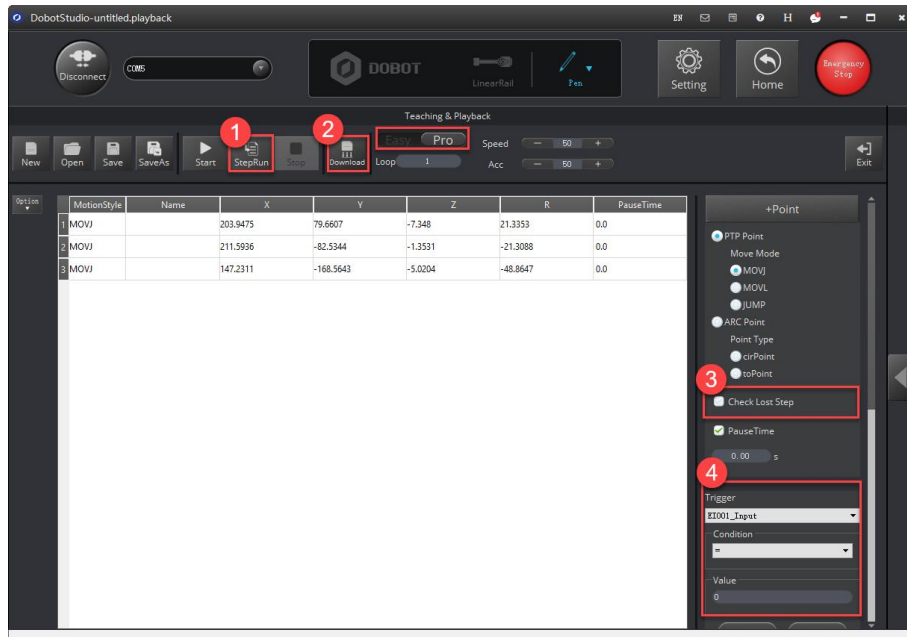

Figure 5.19 The Pro mode of the Teaching & Playback function
- **Pro** mode: To enter the **Pro** mode from the current **Easy** mode, click the **Easy/Pro** slider, as shown in Figure 5.19. Apart from all the functions in the default **Easy** mode, the **Pro** mode allows the robotic arm to run a save point each time, detect lost-steps, work in offline mode, and perform the multiplexed I/O interface. For details, see Table 5.9.